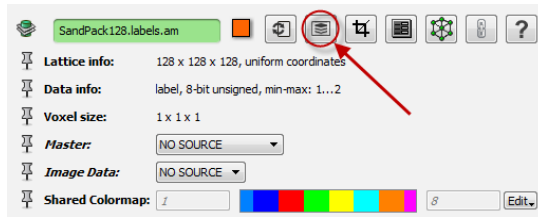

Figure 7.5: The *Segmentation Editor* button.
- In the label image property area, invoke the *Segmentation Editor* in order to access the tools necessary to clean up the labels (see Figure 7.5).